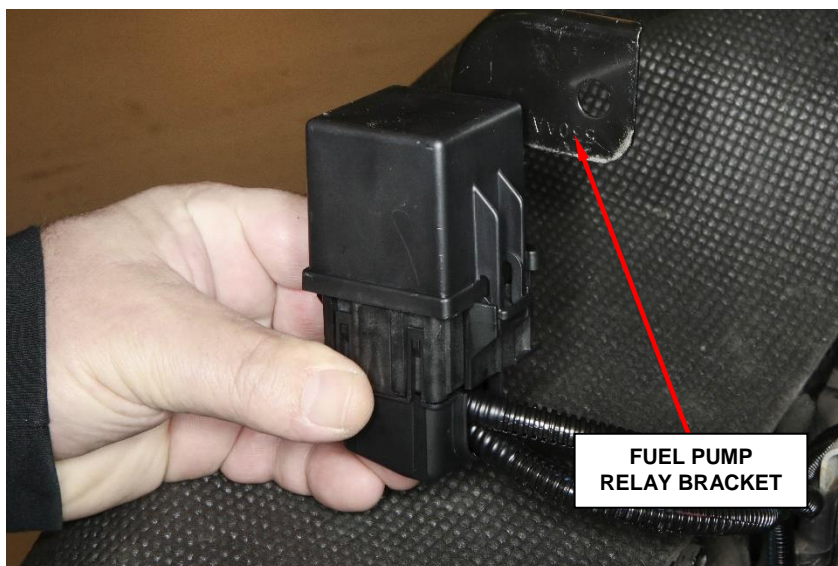

Figure 33 – Fuel Pump Relay Bracket
33. Insert the provided Fuel Pump Relay Bracket on to the relay housing (Figure 33).